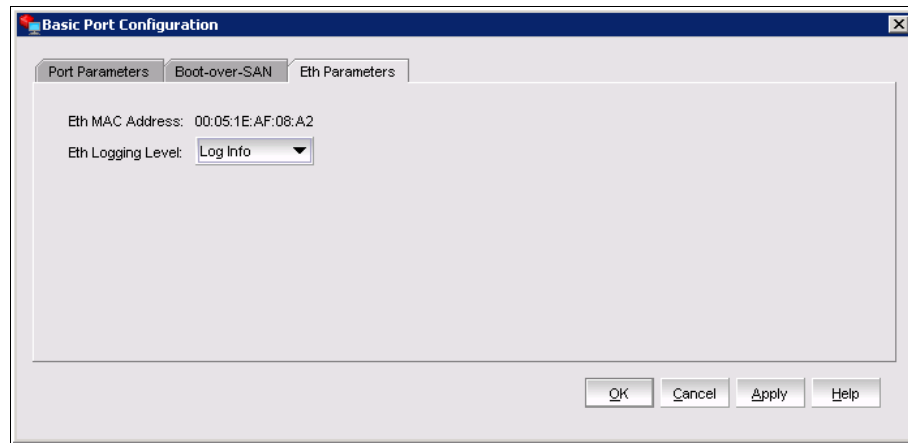

Figure 10-13 Basic Port Configuration Eth Parameters Tab
3. Select the Eth Parameter tab and select a value from the Eth Logging Level list on the Eth Parameters Tab (Figure 10-13).